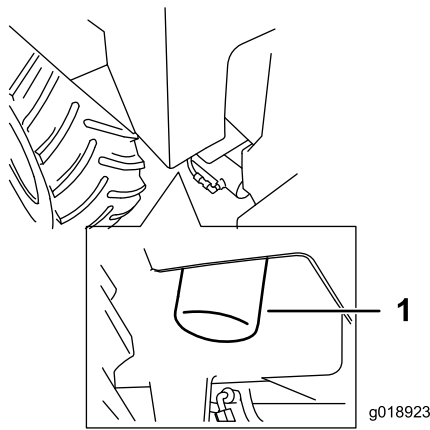

Figure 36
4. Turn the hydraulic-oil filter counterclockwise, remove and discard the filter (Figure 36).